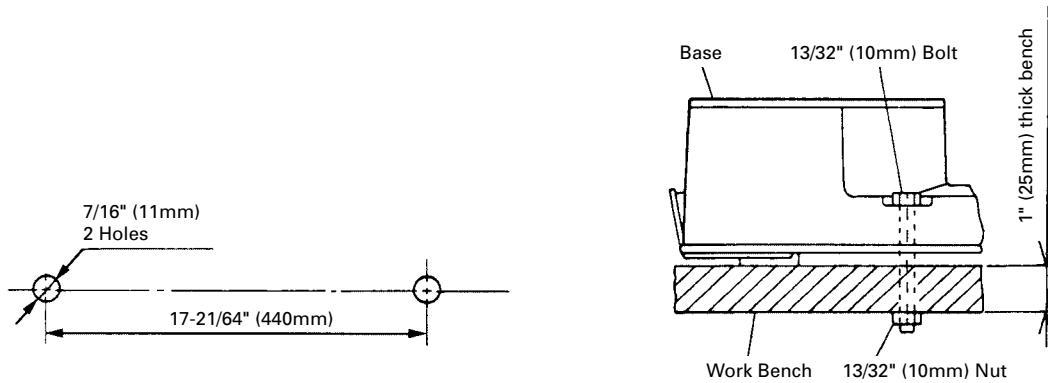

Fig. 4
Attach the power tool to a level, horizontal work bench in accordance with Fig. 4. Select 13/32" (10mm) diameter bolts suitable in length for the thickness of the work bench. Bolt length should be at least 1" (25mm) plus the thickness of the work bench. For example, use 2-23/64" (60mm) or larger bolts for a 1" (25mm) thick work bench. The holder (B) attached to the rear of the base helps stabilize the power tool.